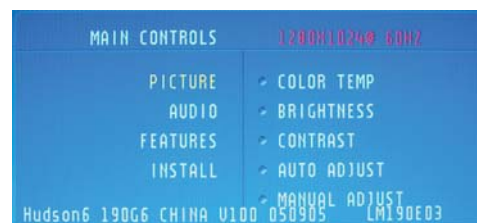

Fig. 14
- 3). Press "OK" button, wait until the OSD menu come on the Screen of the monitor. You will find, after upgrade, the version have already changed from The former "Hudson6 190G6 CHINA V0.35 0508LM190E03" to the Present "Hudson6 190G6 CHINA V100 050905 LM190E03" as shown in Fig. 13 and Fig. 14.